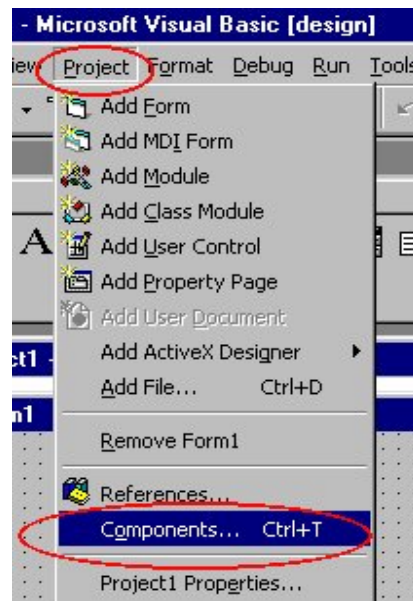

Figure 4-1-2. Select “Project” / “Components”.
- Adding the “7000OCX” into user’s project file. Refer to Figure 4-1-2 to 4-1-3.